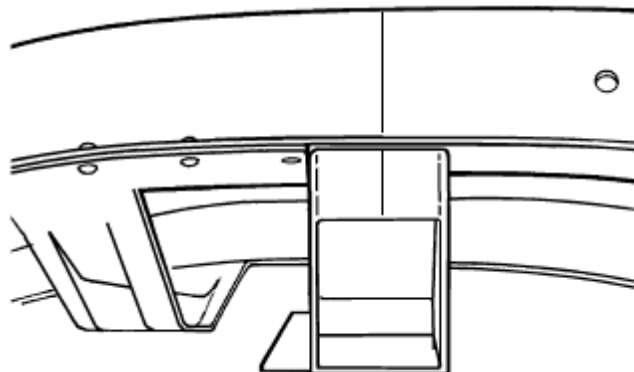

Figure 6- Crossmember Install
7. Next slip the crossmember up into the frame, center it on the scribed axle center line (**Figure 6**). If it does not fit, grind the sides of the crossmember until you can get the crossmember in place, as shown. Make sure the crossmember is seated fully on the underside of the actual frame lower surface and not the remaining flange of the old front crossmember section you trimmed out. **Figure 6** shows this clearly. Tack weld in place, check location, then weld in place, welding all around both ends, top, sides, and bottom.